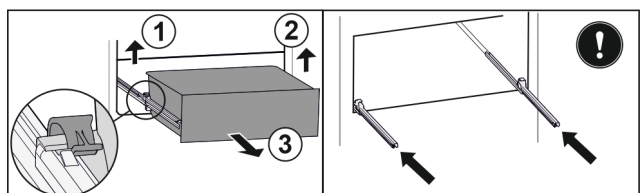

Fig. 211
- ▶ Lift left clamp and simultaneously pull drawer forwards on the left. *Fig. 211 (1)*
- ▶ Lift right clamp and simultaneously pull drawer forwards on the right. *Fig. 211 (2)*
- ▶ Remove drawer to the front. *Fig. 211 (3)*